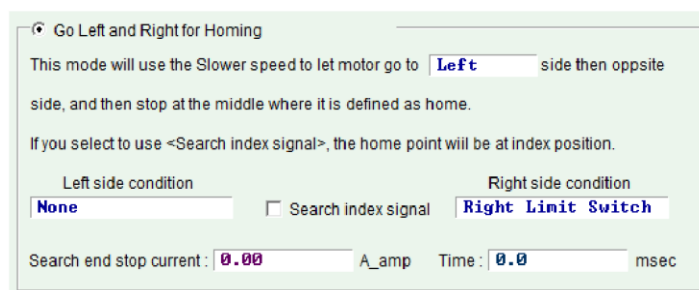

Fig. 8-7
When the Left Side Condition is set to None (i.e., not to use the left side condition), the Right Side Condition is set to End Stop or Right Limit Switch and the initial motion direction (parameter ①) is set to left, it will be determined that homing fails and the Homed status indicator will light red (Fig. 8-7) in homing and vice versa.